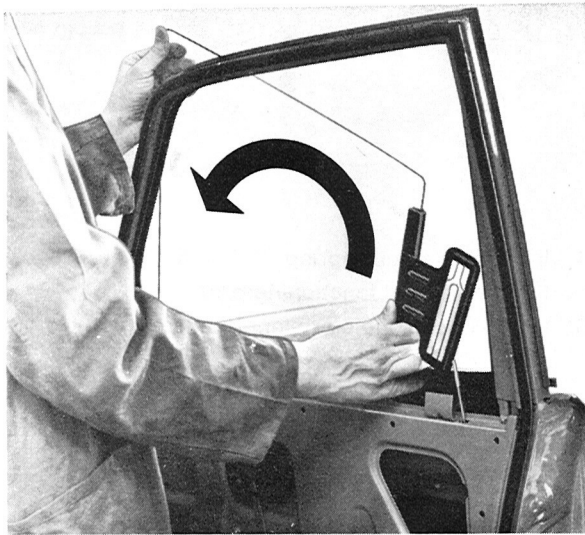

Fig. 8-17. Door window removal
5. Remove the window by lifting and turning towards the vehicle as shown in Fig. 8-17.